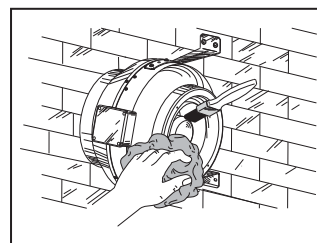

Fig. 23
3. Clean the fan surfaces with a soft cloth or a brush, wetted in a mild soap solution. Then wipe the surfaces dry, fig. 23.